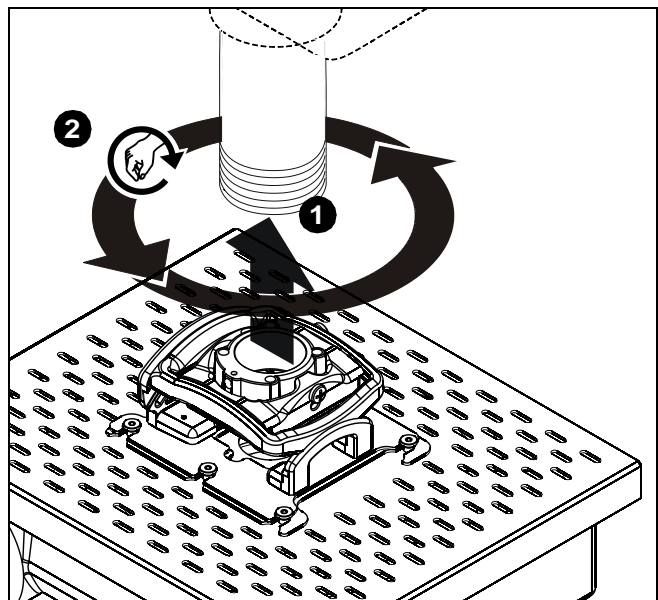

Figure 8
- Align RPMA1 with end of NTP pipe. (See Figure 8)
- Thread RPMA1 up onto pipe by turning counterclockwise until hand tight. (See Figure 8)